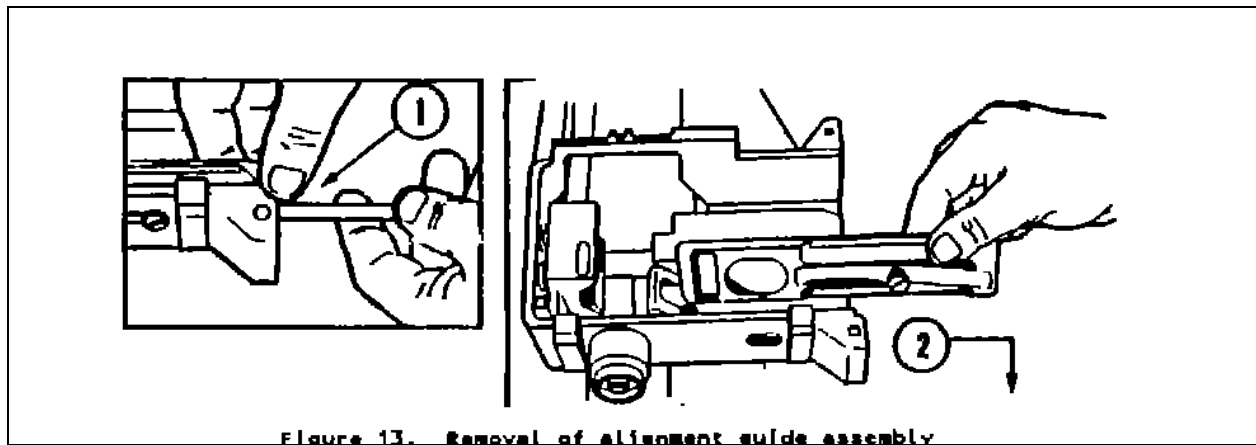

Figure 12. Removal of alignment guide assembly
(1) Depress alignment guide spring (insert cartridge link or small tool into feeder mouth). (See Figures 12, 1).
(2) Slide alignment guide toward feeder mouth. (See Figures 12, 2.)
(3) Pull back and lift out alignment guide.